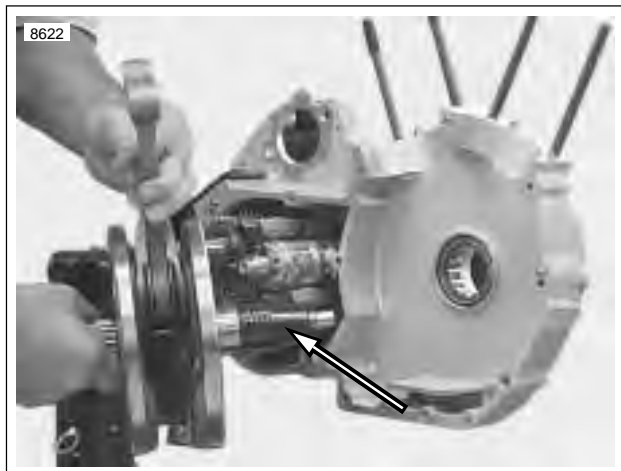

Figure 6-84. Installing Flywheel Assembly Using Crankshaft Guide Tool (Part No. HD-42326)
1. See Figure 6-84. Install the flywheel assembly into the left crankcase half using CRANKSHAFT GUIDE TOOL Part No. HD-42326.